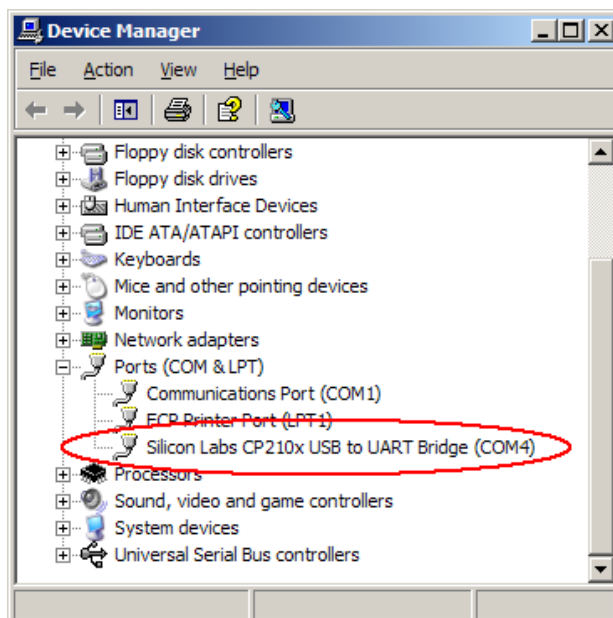

Figure 12. COM Port in Device Manager
2. To connect to the board, the COM port designated to the compass device must be specified. To find the correct COM port, open the PC's "Device Manager" window. Expand the "Ports (COM & LPT)" section. Find the COM port assigned to "Silicon Labs CP210x USB to UART Bridge." An example is shown in Figure 12.